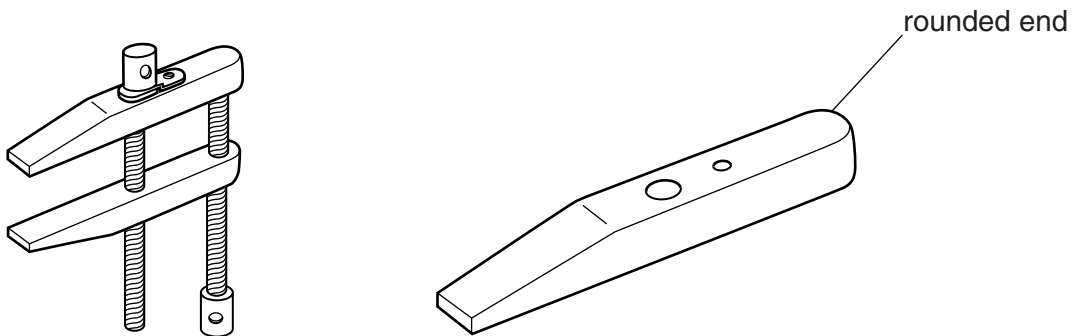

Fig. 1
- 4 Fig. 1 shows a toolmaker's clamp and one of the jaws from it. The jaw is made from 16 mm × 16 mm mild steel bar.
- (c) Complete the table below to show the stages needed to produce the rounded end of the jaw shown in Fig. 1. Name the tools used at each stage. The first and last stages have been done for you.